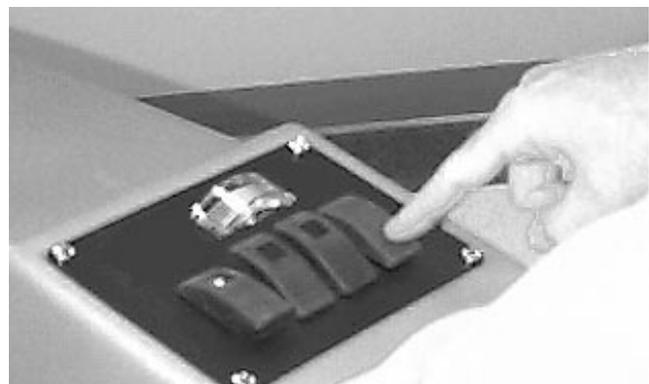

FIG. 6
2. Lower brush/pick-up head to floor by depressing brush height switch (Figure 6).